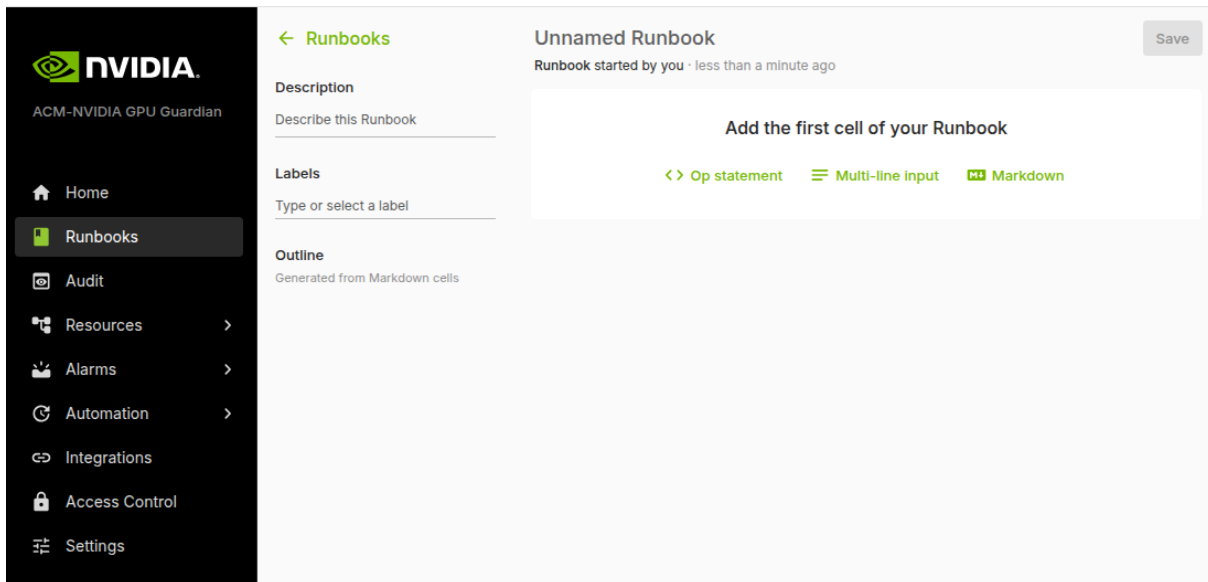

Figure 6.17: Web GUI for autonomous hardware recovery: creating a new runbook
- A new runbook is created by clicking on the New Runbook button, and then on the op statement option (figure 6.17):